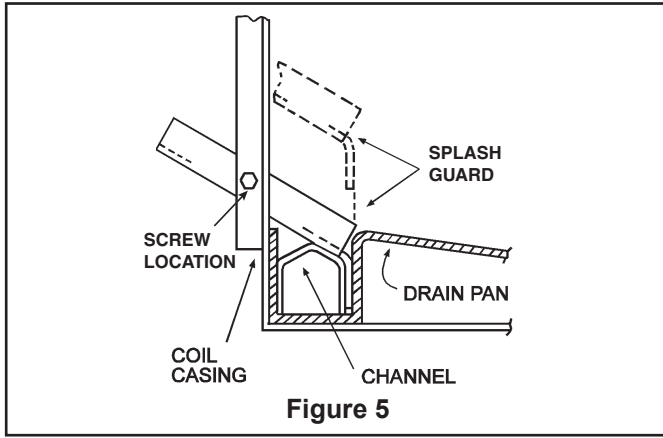

Figure 5
f. The splash guard packaged with the coil is for horizontal left coil installation only. The guard has a bend which is inserted into the front channel of the horizontal drain pan on the outlet air side of the coil case. The guard is then rotated downward until it rests in the drain pan. One field supplied sheet metal screw is driven through the coil case duct flange on the front side and into the splash guard side hole. See Figure 5.